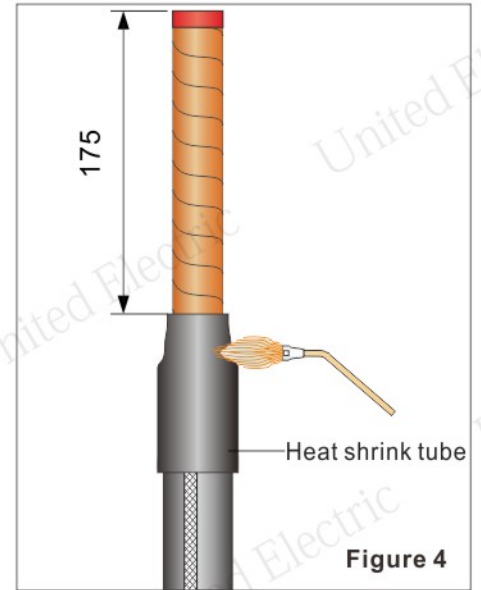

Figure 4
- Place and slide heat shrink tube over the cable core with 175mm to the cable end, shrink it down starting at the top end and working downwards as shown in figure 4.